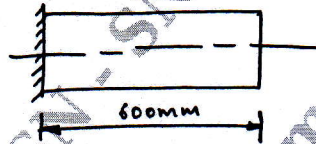

Fig.Q10(b)
b. Determine the natural frequency of longitudinal vibration of the bar shown in Fig.Q10(b). Take, $E = 200 \text{ GPa}$, $\rho = 7840 \text{ kg/m}^3$, $A = 240 \text{ mm}^2$.